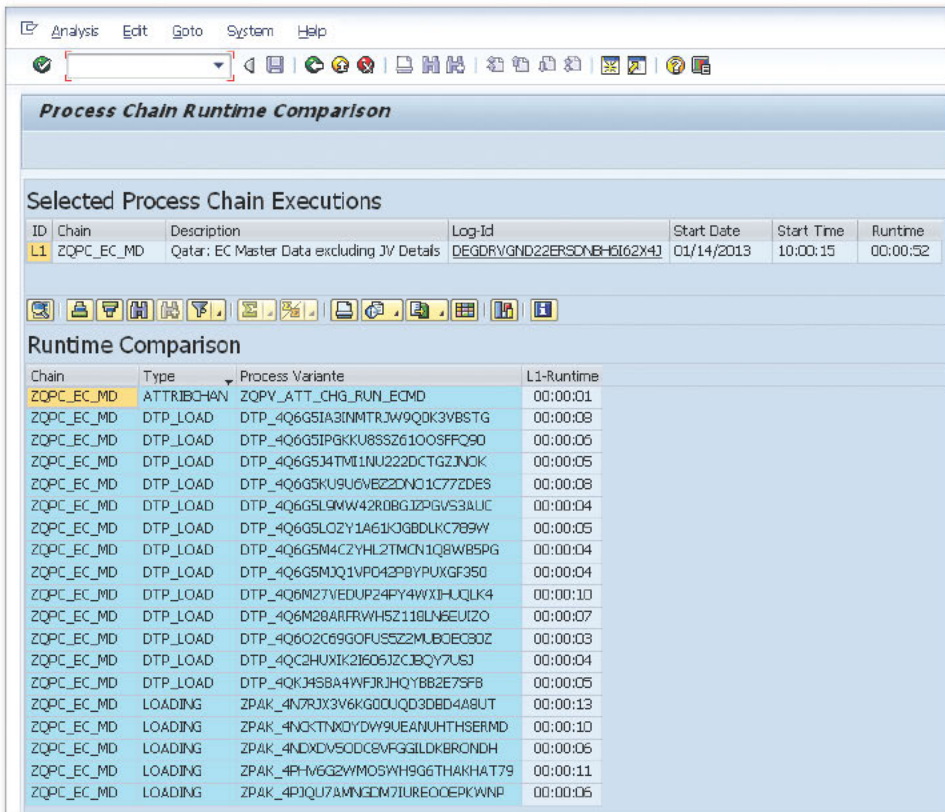

Figure 3 Process Chain Runtime Comparison
- By clicking on COMPARE RUNTIMES, the system will take you to the details of the process chain steps and the time spent on each step (see Figure 3).